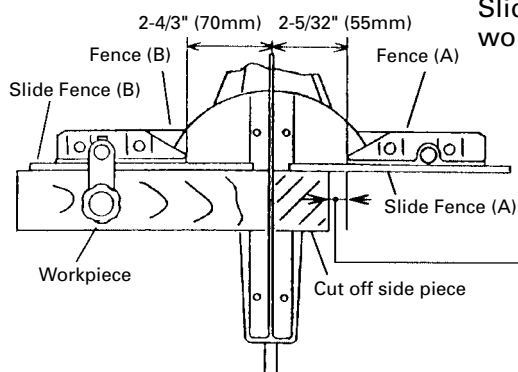

Fig. 18
Slide fence (A) and slide fence (B) are meant to stabilize small workpieces as shown in Fig. 18.